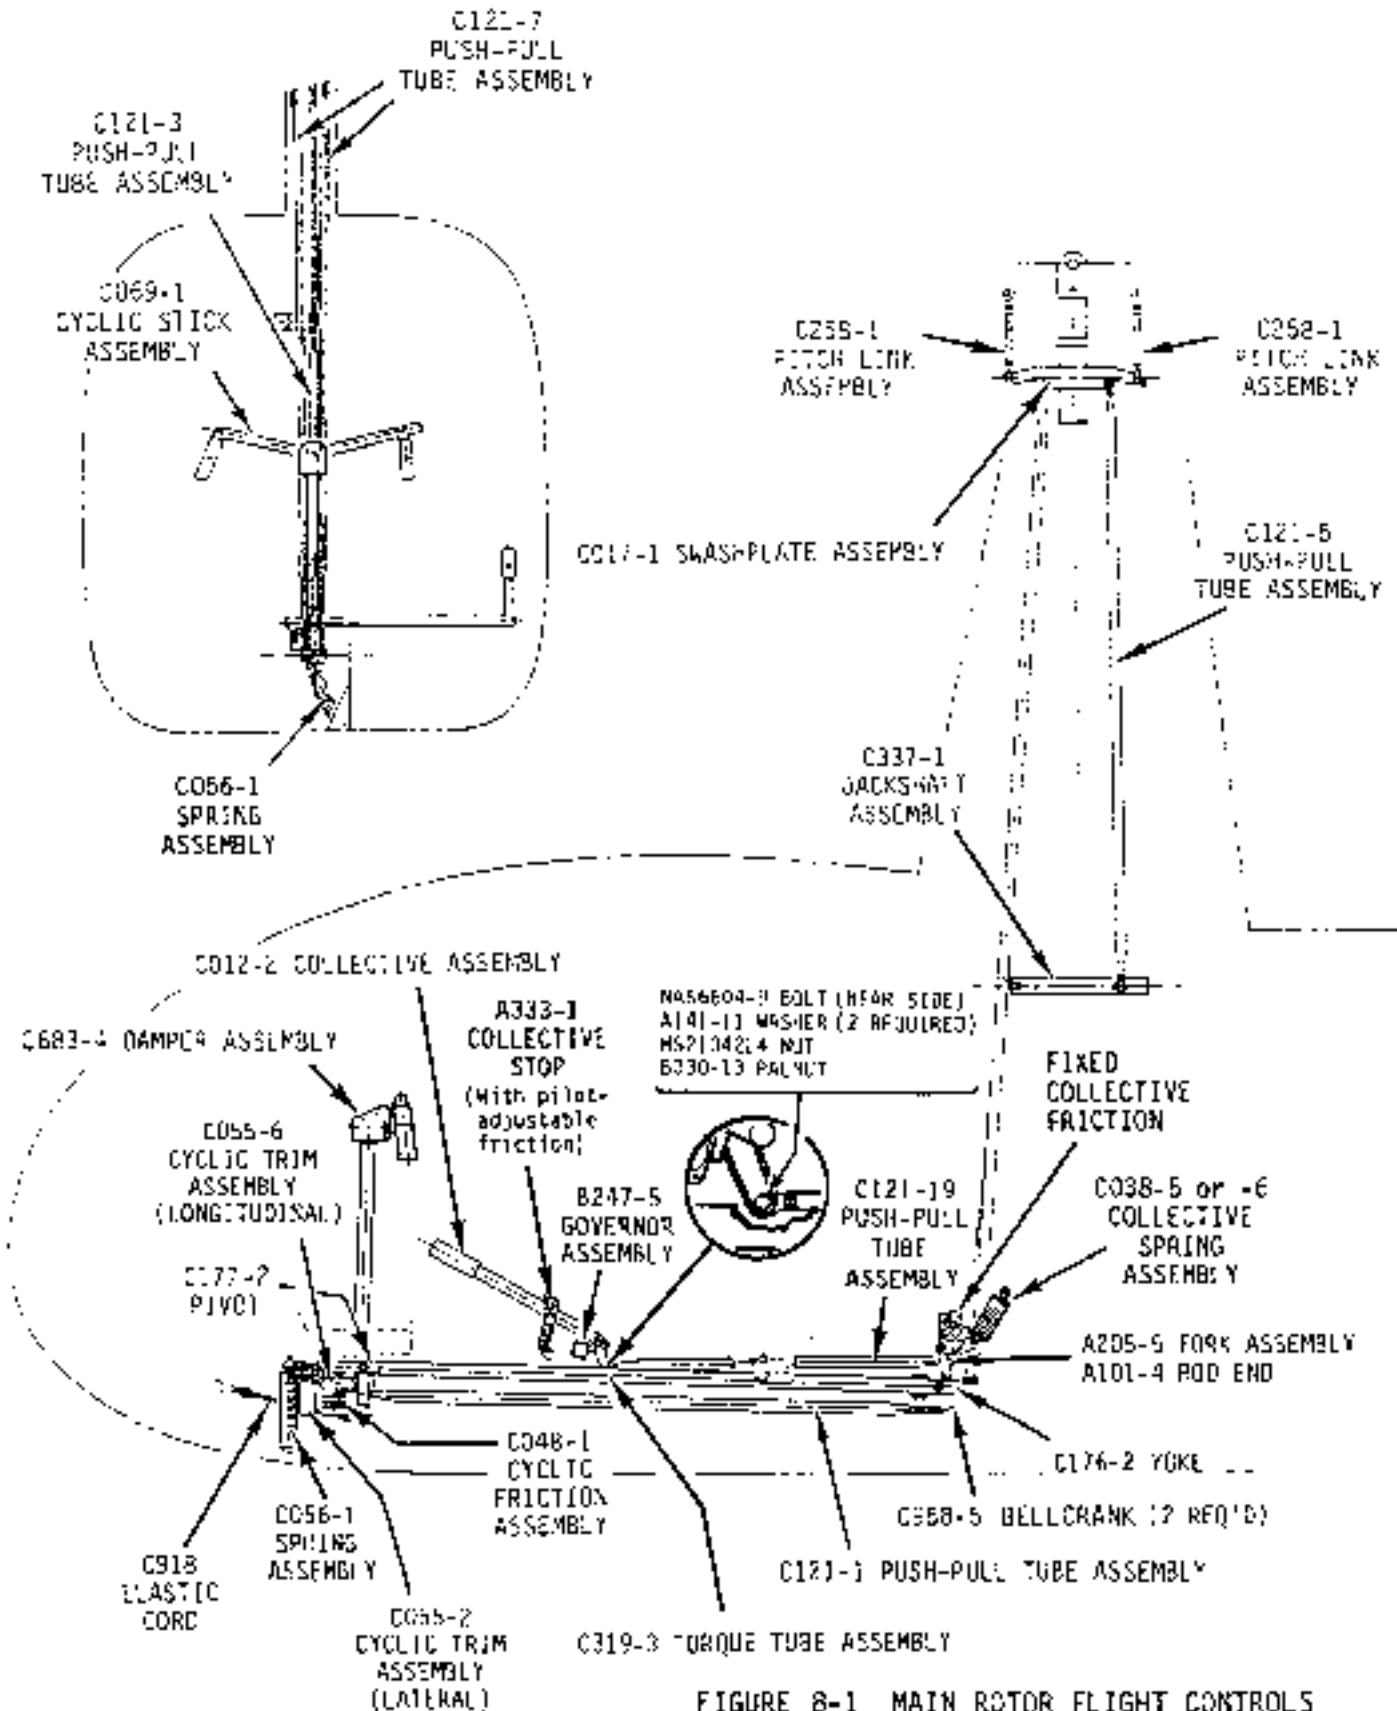

FIGURE 8-1 MAIN ROTOR FLIGHT CONTROLS (Electric Trim System)
8.002 Description (see Figures 8-1 and 8-2)